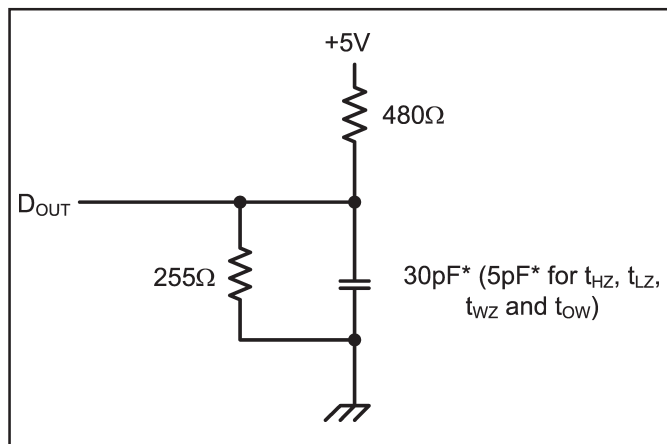

Figure 1. Output Load
7. Transition is measured  $\pm 200\text{mV}$  from steady state voltage prior to change with specified loading in Figure 1. This parameter is sampled and not 100% tested.
Output Load	See Figures 1 and 2